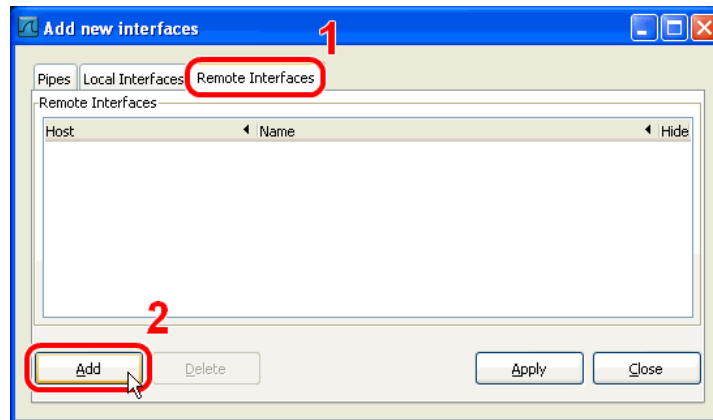

Figure 182: Wireshark Add New Interfaces Dialog.
3. Select the **Remote Interfaces** tab and click **Add** as shown in Figure 182.